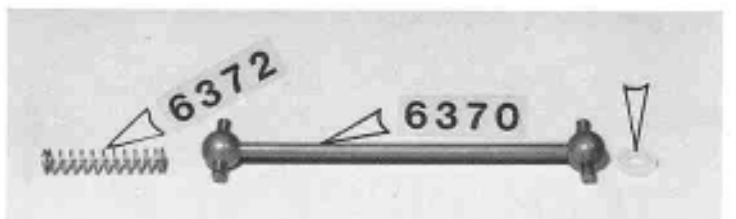

Fig. 117
-111- Before proceeding with the assembly of the rear hub carrier it's a good idea to check fit of the dogbone in the stub axle. If it does not slide and swivel freely then check for burrs around the dogbone pins or heat treating residue inside the stub axle. Also check that the spring fits freely in the small hole at the bottom of the dogbone socket (see Fig. 117). If either of these holes are clogged they can be cleaned by soaking the stub axle in hot or boiling water for a half hour. Dry and oil the stub axle after cleaning.